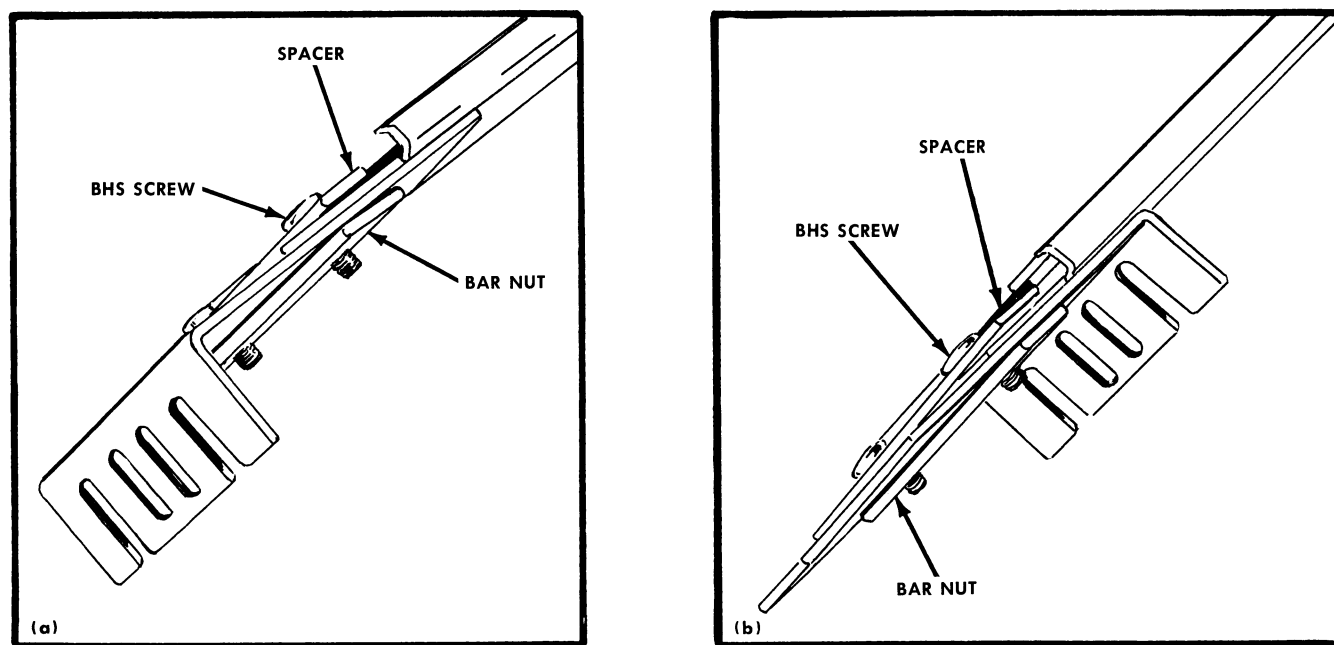

Fig. 2-6. Mounting the rear bracket on the stationary section: (a) normal position; (b) reverse position.
7. Fasten the rear mounting bracket to the stationary section with two BHS screws, a spacer, and a bar nut (see Fig. 2-6).